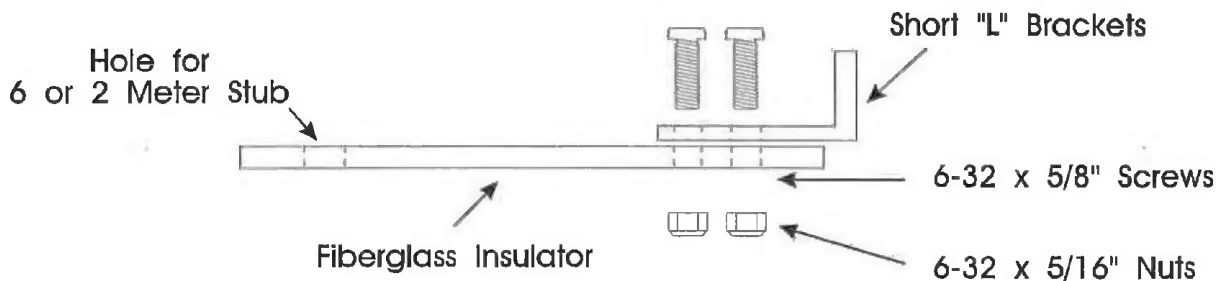

Figure 1
- [ ] 4. Assemble the four small "L" brackets to the 4 long fiberglass insulators with the 6-32 x 1/2" screws and the 6-32 x 5/16" nuts as shown in Figure 1.